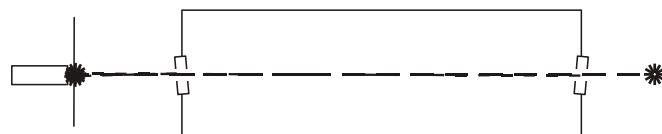

Figure 102: Reflection of alignment laser on card (optics aligned)
8. Using the long 3 mm allen key, adjust the horizontal and vertical adjustment at the HR rear mirror until the reflected light is concentric with the alignment laser beam and reflected light from the output coupler at the pin hole (see Figure 102).